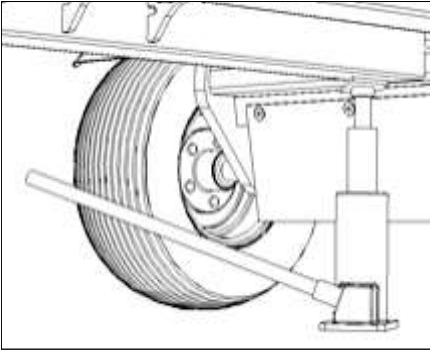

Fig. 59
4. Place the jack beneath the rear of the chassis rail where it intersects the cross member on the side nearest the wheel to be raised (Fig. 59). Jack the chassis up to take part of the weight. Do not lift the wheel clear of the ground at this stage.